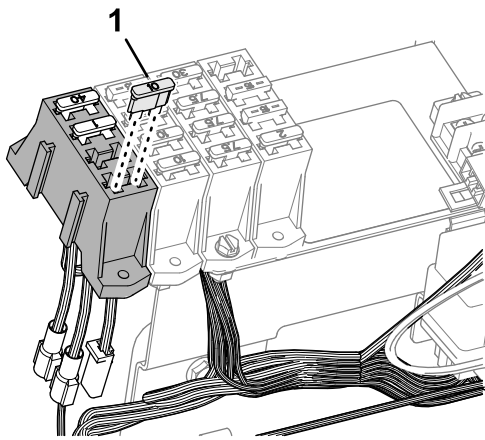

Figure 21
5. Insert the fuse (10 A) into the fuse block slot for the OPTIONS POWER connector (Figure 21).